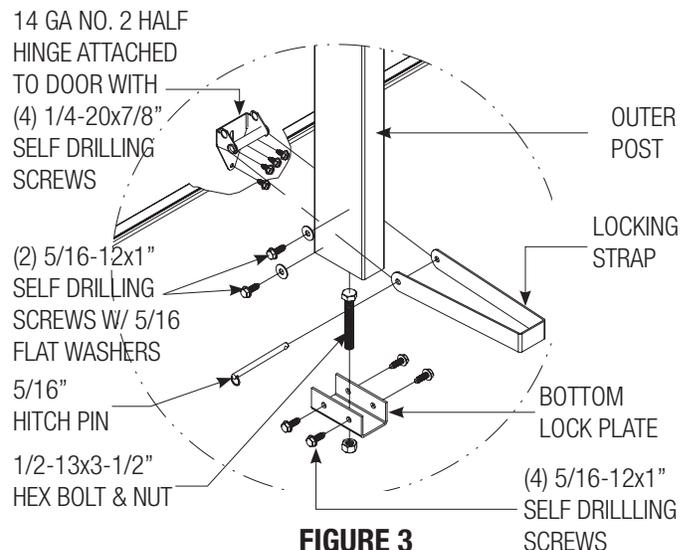

FIGURE 3
Place the half hinge at the bottom of the bottom section in line with the intermediate hinges and attach with (4) 1/4-20x11/16" self drilling screws as shown in figure 3. Assemble the bottom lock plate by sliding (1) 1/2-13x3-1/2" bolt down through the top the bracket and securing with the hex nut from below. Attach the bottom lock plate to the bottom of the outer post with (4) 5/16-12x1" self drilling screws as shown in figure 3.